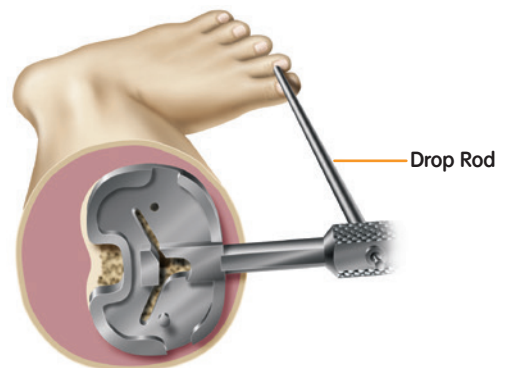

Figure 41
- 3 Place a trial insert into the stemless tibial trial tray and perform a trial range of motion to allow the baseplate to center on the femoral trial. (As a secondary check, the surgeon may pass the alignment rod through the quick-connect handle to assess alignment) (Figure 41). Pin the lateral side of the trial.